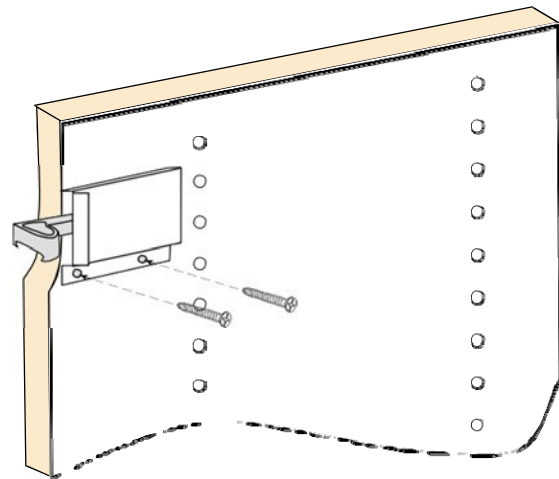

Fig. 1
2. Mount all left and right suspension brackets (#3) to the hanging partitions prior to system installation using two (2) #8 x 5/8" screws (#12) through the bracket into the pre-drilled bracket holes. Snap on Fast Caps (#4) to the opposite side of the partition over the exposed bracket holes. (See Fig. 1).